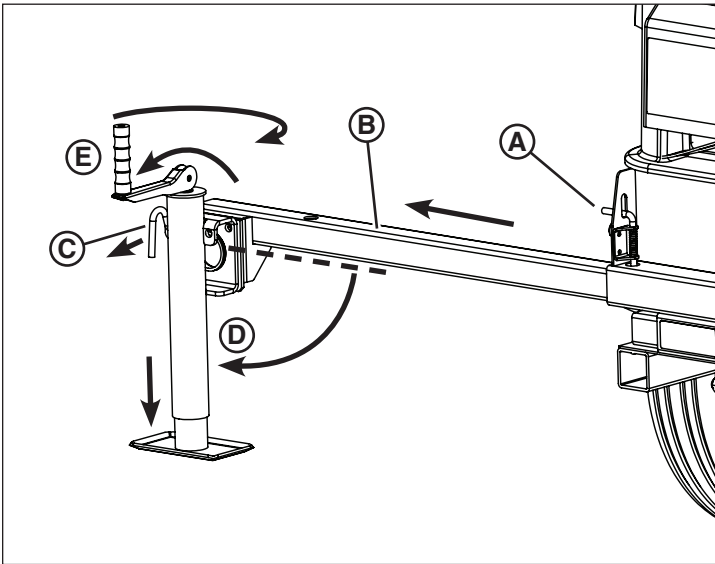

Figure 12
- a. Lift the outrigger locking pin (A, Figure 12).
- b. Slide the outrigger (B, Figure 12) out until the pin locks the outrigger in the operating position.
- c. Pull the stabilizer jack locking pin (C, Figure 12) securing the stabilizer jack in the transport position, and rotate the jack into the operating position (D). Make sure the pin locks the stabilizer jack in place.
- d. Unfold the handle (E, Figure 12) of the stabilizer jack, then turn clockwise to lower the jack until the jack foot is firmly planted on the work site surface.